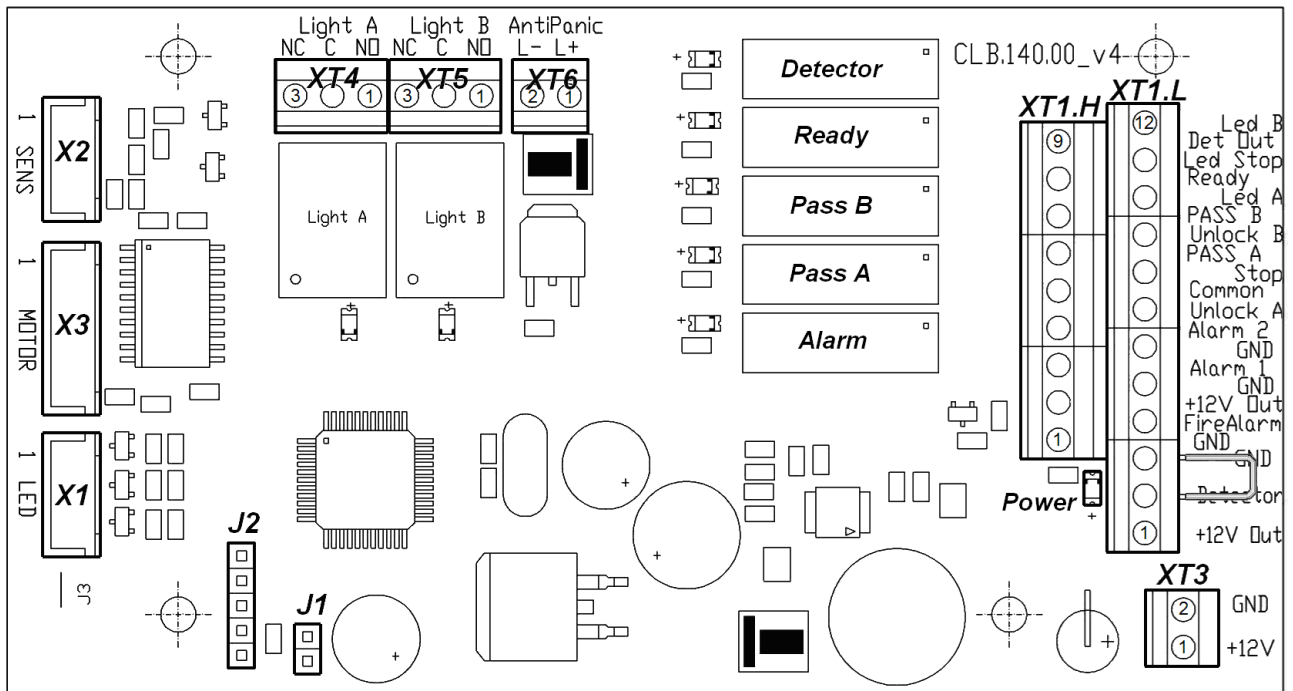
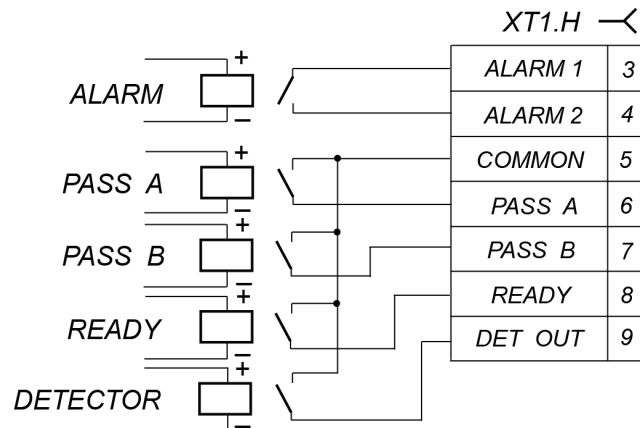
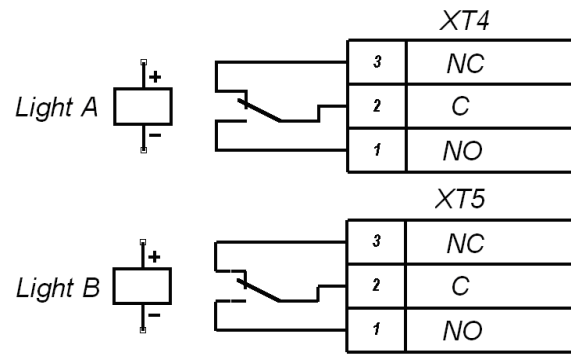

Figure 5. Control Logic Board (CLB)
Figure 8. Output cascades for PASS A, PASS B, Ready, Det Out and Alarm
Figure 9. Output cascades for Light A and Light B
The RC panel is connected to the CLB with a multicore cable (12) via the “XT1.L” connector block (See Fig. 5 and Fig. 12).
If the turnstile orientation relatively to the operator’s terminal is not standard (e.g. the terminal is placed at the backside of the turnstile housing), the RC panel orientation towards the turnstile can be changed by exchanging places of the RC wires to the contacts “Unlock A” and “Unlock B” as well as contacts “Led A” and “Led B” accordingly (see Fig. 5 and Fig. 12).
The CLB (Fig. 5) includes:
Connection of the devices stated in Clause 5.3.1 is made with the cable (5) to the corresponding connector blocks **XT1.L** and **XT1.H** of the CLB in accordance with the connection layout (Fig. 5 and Fig. 12).
Pin assignments of the CLB connector blocks are given in Fig. 5.
The relays *PASS A* (contacts *PASS A* and *Common*), *PASS B* (contacts *PASS B* and *Common*), *Ready* (contacts *Ready* and *Common*), *Detector* (contacts *Det Out* and *Common*) and *Alarm* (contacts *Alarm 1* and *Alarm 2*) have normally open contacts. The “*Common*” contact, at that, is not connected to the CLB power supply negative terminal. In the initial (inactive) state, when the power is on, the relay contacts “*PASS A*”, “*PASS B*”, “*Ready*” and “*Detector*” are closed (voltage is supplied to the relay coil) and the “*Alarm*” relay contacts are broken (voltage is not supplied to the relay coil). The CLB relay operation/release is indicated by lighting up/going down of the red test indicators located near the corresponding relays (Fig. 5). The output cascades for *PASS A*, *PASS B*, *Ready*, *Det Out* and *Alarm* are the contacts with the following signal characteristics (Fig.8):
The control mode is set by the jumper on the J1 connector (the J1 connector location is shown on Fig. 5 and on a label located on the inner surface of turnstile cover (2)): the jumper is fixed — the pulse control mode, the jumper is not fixed — the potential control mode. The jumper is fixed at the factory before the delivery.
The intrusion detector is connected to the “XT1.L” connector block, and the siren is connected to the “XT1.H” connector block of the CLB according to the connection layout (Fig. 5 and Fig. 12). There should be normally closed contacts on the intrusion detector.
The intrusion detector status signal is constantly transmitted to the “Det Out” and “Common” contacts of the CLB “XT1.H” connector block (Fig. 5).
The emergency unblocking device is connected to the “XT1.L” connector block of the CLB in accordance with the connection layout (Fig. 5 and Fig. 12). If the “Fire Alarm” input is not used, it is necessary to set a jumper between the contacts “Fire Alarm” and “GND”. This jumper is preset at the factory.
The remote indicators**) are connected to the connector blocks “XT4” (“Light A”) and “XT5” (“Light B”). At that the “Light A” (“Light B”) relay is active (the voltage is supplied to the relay coil), when the “Green arrow” pictogram on the LED indication display, corresponding to the set passage direction, lights, and it is passive, when the “Green arrow” pictogram on the Led display does not light. The response/release of the relays “Light A” and “Light B” can be defined according to lighting up/going down of the red indicators, which are installed near the above mentioned relays (Fig. 5). Output cascades for the “Light A” and the “Light B” relays are non bridging relay contacts (Fig. 9) with the following signal characteristics: